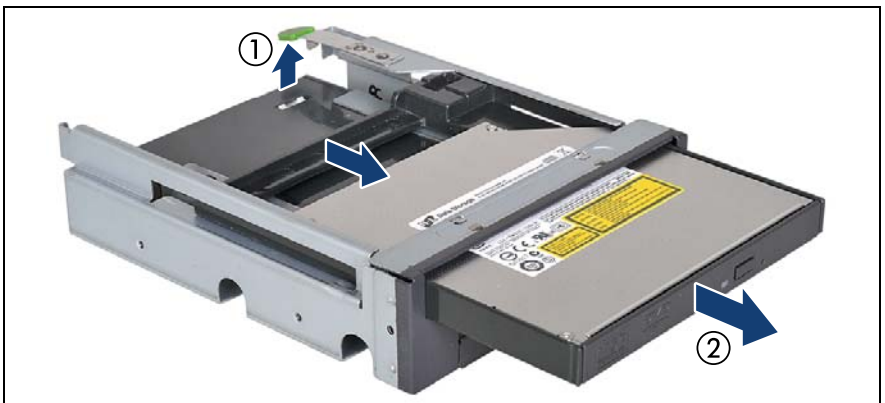

Figure 229: Removing the slimline ODD from the Multibay box
- ▶ Press up on the locking tab to disengage the slimline ODD dummy module as shown in figure 229 on page 317.